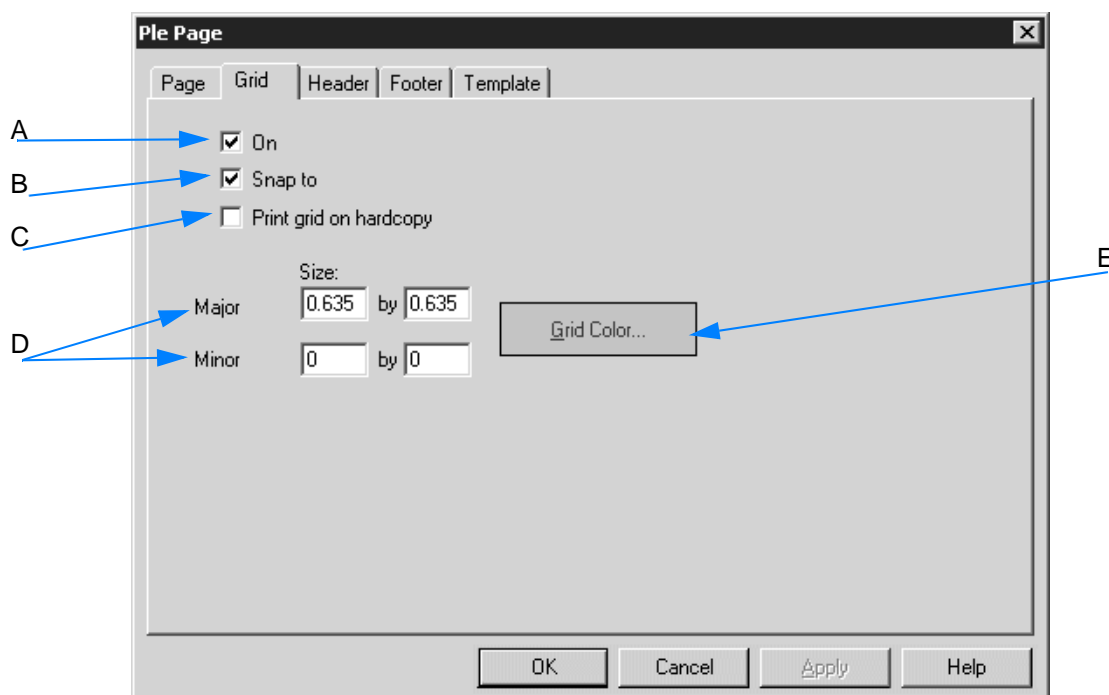

Figure 199: Ple Page - Grid tab
- D The *Major* and *Minor* settings define the grid size in the unit specified on the *Page* tab. Figure 199 exemplifies a grid size of 0.635 x 0.635 inch. The grid can be further divided by filling in the *Minor* entry fields.